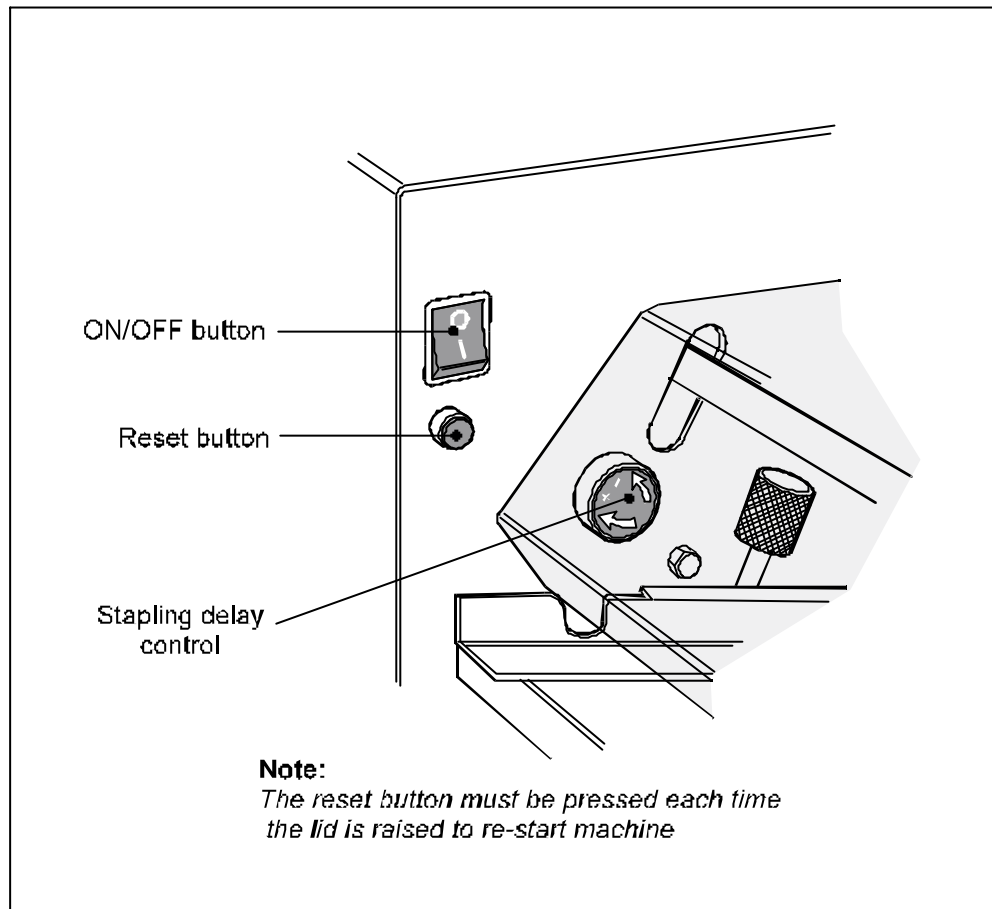

Figure 8 - Operating controls
3. The stapling / folding operation is started when sensors detect the paper in the machine. The time between the paper entering the machine and the stapling action can be varied. This is achieved by turning the Stapling Delay Control shown in figure 8 clockwise for more time and anti-clockwise for less. When first using the machine, give the Stapling Delay Control a quarter turn clockwise. This will give time for the operator to settle the paper between the guides before the machine cycles.